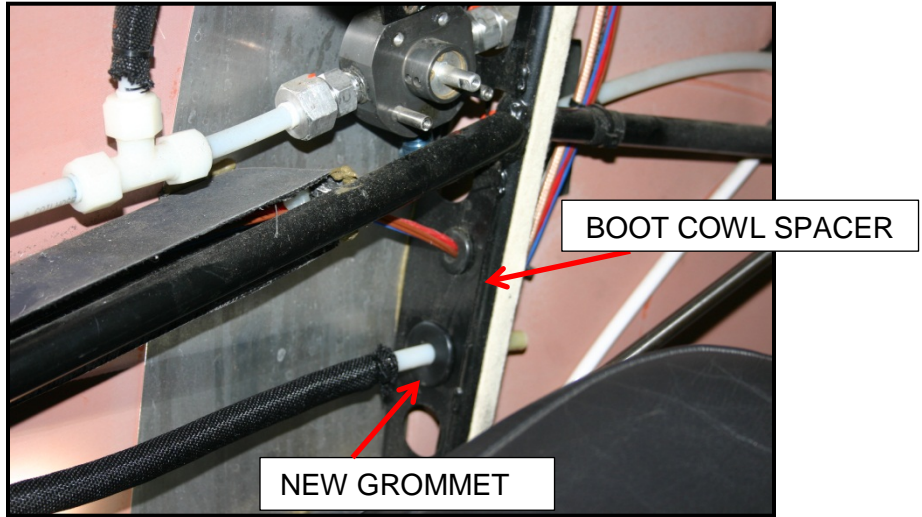

FIGURE 13 - Grommet Installation
38. Install the rubber grommet into upper 1" hole of boot cowl spacer (Figure 13). It may be necessary to trim approximately 3/16" off one side for proper fit.